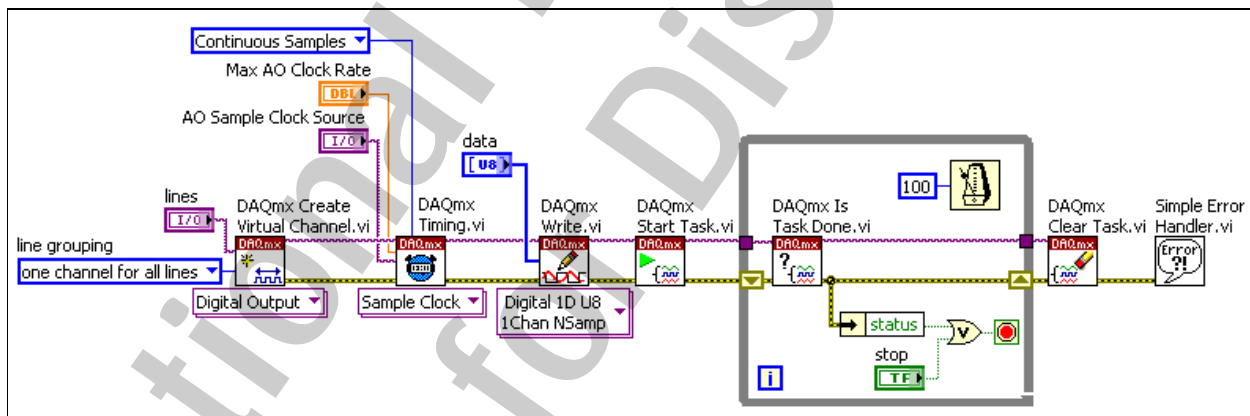

Figure 5-6. Correlated Digital Output VI Block Diagram
2. Modify the block diagram to generate digital data, as shown in Figure 5-6, using the following items: